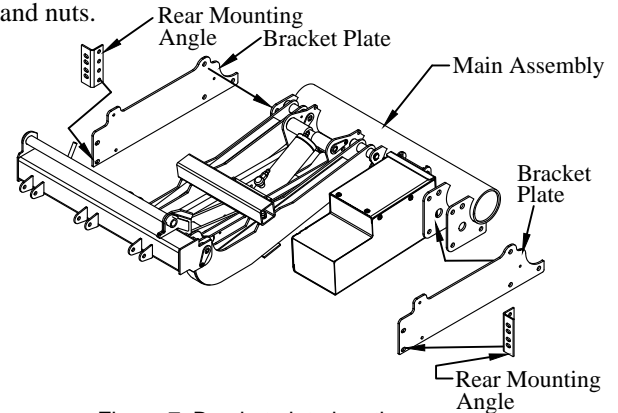

Figure 7: Bracket plate locations.
8. **Install** the bracket plates on the main assembly using six (6) 5/8" x 1-1/4" bolts, lock washers, and nuts. The bolt head and lock washer should be on the outside (Figure 7).
9. **Install** rear mounting angles with four (4) 1/2" x 1-1/4" bolts, lock washers, and nuts. Position the rear mounting angles using the bottom set of holes and slots.